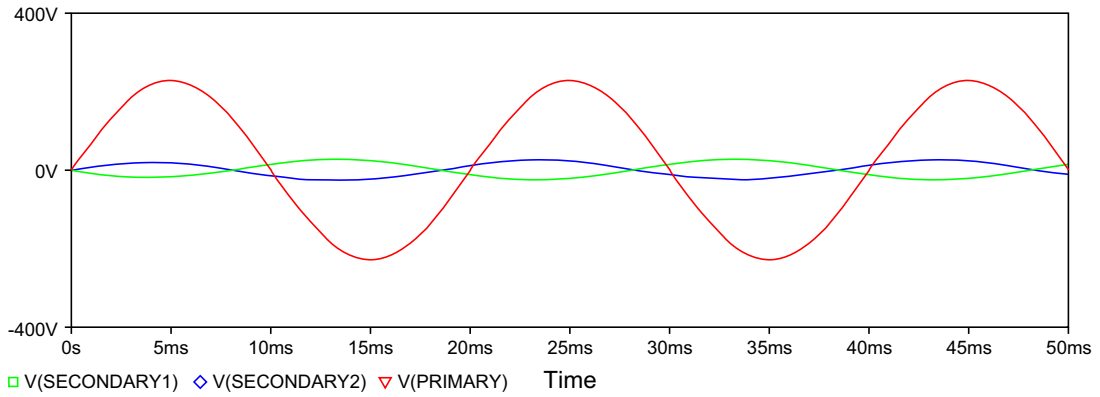

FIGURE 9.13
5. Figure 9.13 shows the voltage waveforms for the non-linear transformer. You should see 25.1 V on each secondary winding.